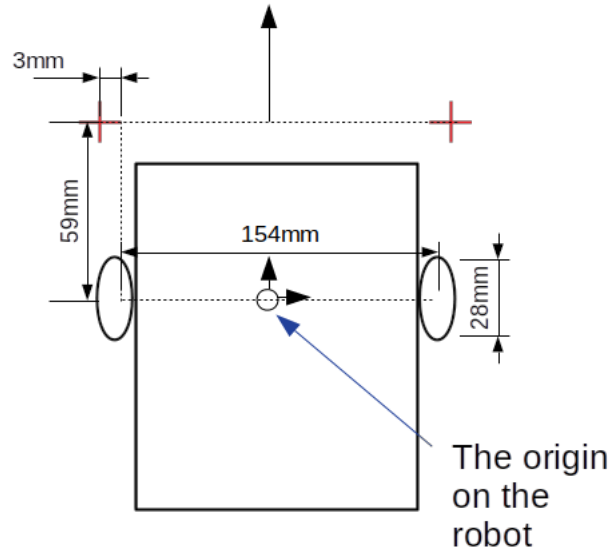

Figure 1.8: Dimensions of the robot
- The origin of the robot will lie on the mid point of the axial line connecting the wheels as seen on Figure 1.8